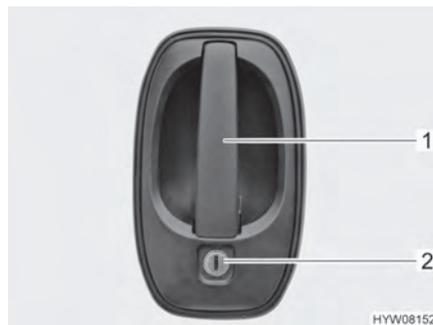

Fig. 31 Door lock (driver's door/conversion door, outside)
- Insert the key into locking cylinder (Fig. 31,2) and turn until the door lock is unlatched.
- Pull on the door handle (Fig. 31,1). The door is open.
- Insert the key into locking cylinder (Fig. 31,2) and turn until the door lock is engaged.